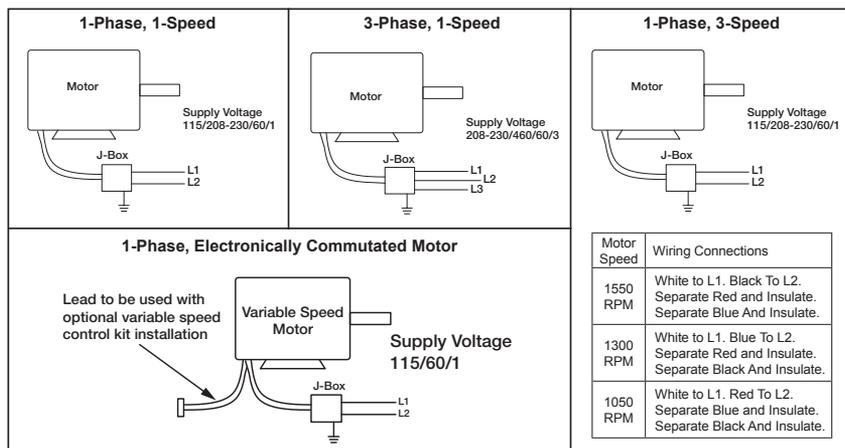

Figure 3
9. Connect power supply wiring to the motor as indicating on the motor nameplate, refer to Figure 3 for connection wiring diagram.